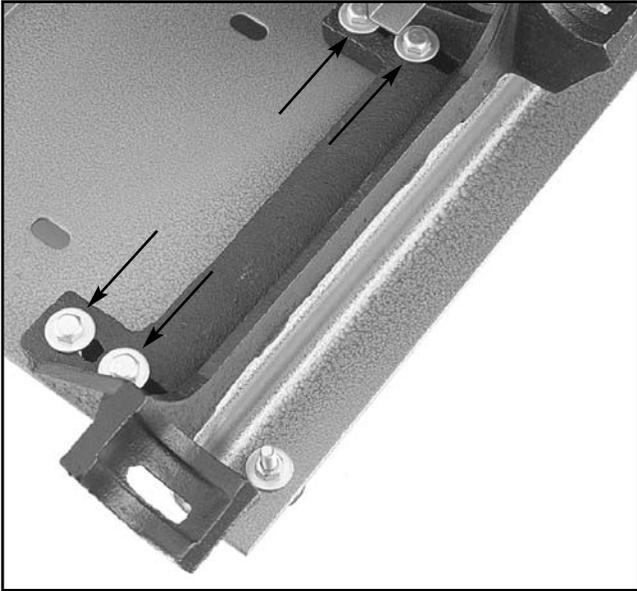

Figure 5. Table support mounted on base.
- Attach the Disc Table Support to the base using the four (4) $\frac{5}{16}$ " - 18 x $1\frac{1}{4}$ " hex bolts, eight (8) $\frac{5}{16}$ " washers, and four (4) $\frac{5}{16}$ " - 18 hex nuts. **See Figure 5.** Finger tighten for now.